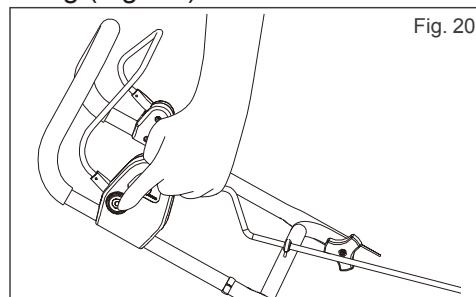

Fig. 20
1. To power on, depress and hold the safety switch button found alongside the switch housing (Fig. 20).